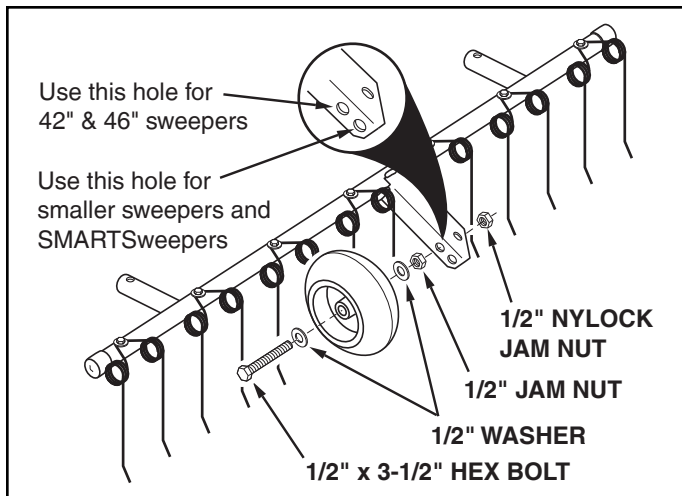

FIGURE 2
3. Assemble a 1/2" washer, the wheel, another 1/2" washer and a 1/2" plain jam nut onto the 1/2" x 3-1/2" hex bolt. See figure 2.
4. Insert the bolt through the welded bracket and assemble a 1/2" nylock jam nut onto the bolt. Adjust nuts so that there is no end play in the wheel and then tighten securely against the welded bracket. Make sure the wheel still turns freely. See figure 2.
- The operating height of the dethatcher is controlled by the gauge wheel at the front of the dethatcher and is not adjustable. The correct wheel position was determined in figure 2 when you assembled the wheel.